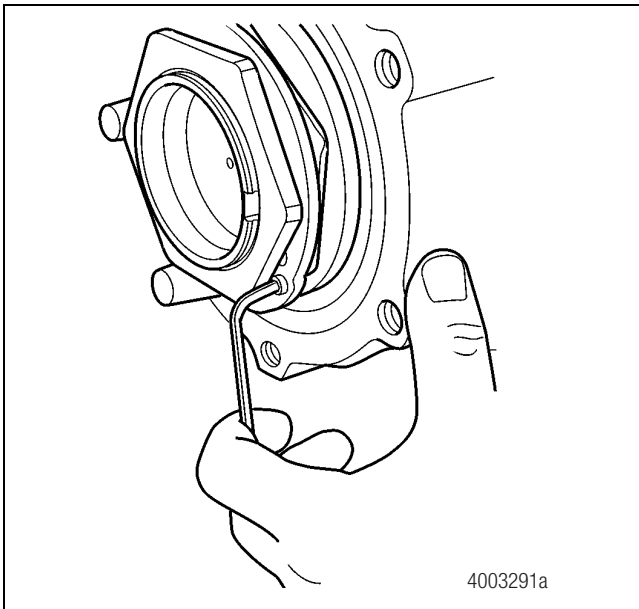
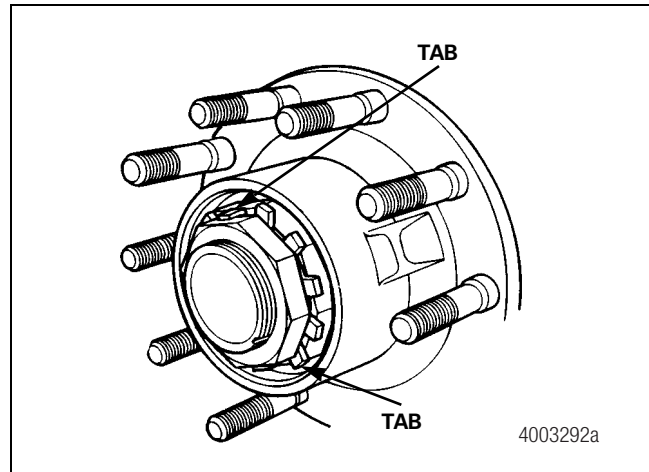

Figure 10.10
Figure 10.11
8. Using an Allen wrench, tighten the set screw into the lock washer until it is seated. Figure 10.10. If the axle is fitted with the bendable tab lock washer, bend two tabs over opposite flats of the jam nut. Figure 10.11.